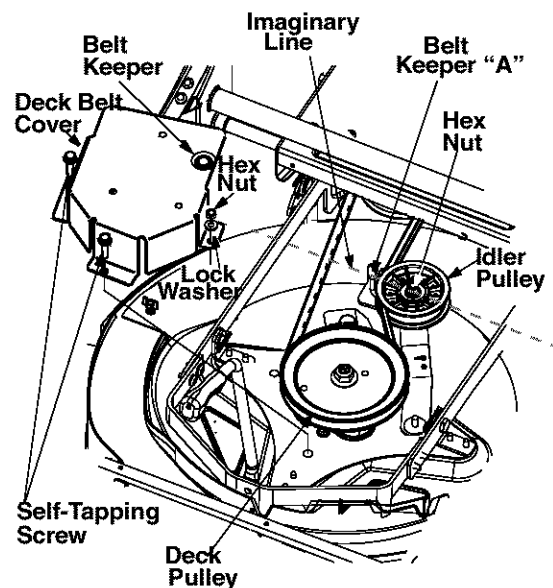

Figure 17
- Using a 1/2" socket wrench, remove two self-tapping screws, lock washer and hex nut that hold the deck belt cover to the deck. See Figure 17. For this, you will have to work from the top left side of the riding mower. Remove the belt cover.
- Using a 9/16" wrench, loosen the hex nut on the idler pulley. See Figure 17.
- Place the new belt around the deck pulley and the engine pulley making sure that the belt is routed inside the belt keepers. There are two belt keepers under the grass catcher, one on the idler and the other under the deck belt cover. See Figure 17.
- Make sure to align the belt keeper in line with the frame. See Figure 17.
NOTE: An imaginary line between the belt keeper and idler pulley should be parallel to frame. See Figure 17.